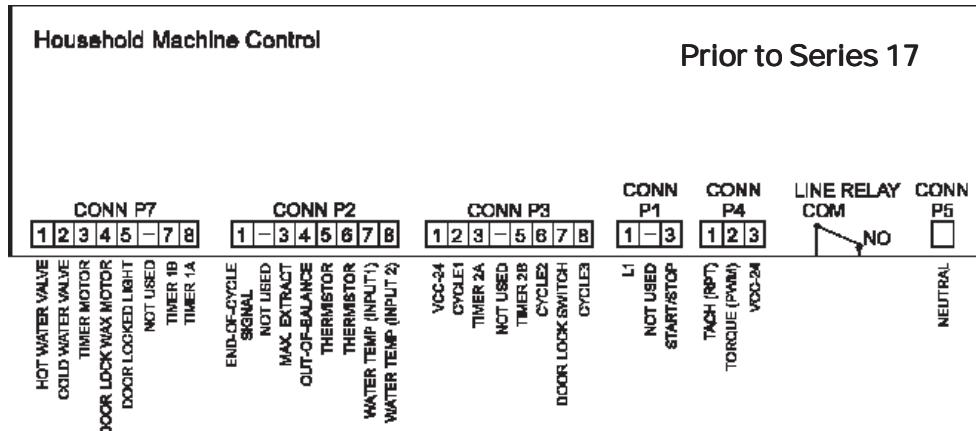

Figure 2-3
Check the water valve for electrical continuity. This check should be made with the electrical supply disconnected from the washer. Remove the wire harness from the water valve terminals and place the ohm meter probes on the terminals of the water valve. The water valve solenoid coil should have a resistance between 500-1000 ohms. If no ohms are shown on the display of the electrical test meter, the solenoid coil has an open winding and the valve should be replaced. The thermistor in the water valve changes in resistance in direct relationship to water temperatures. To monitor the performance of the thermistor, run a partial hot water fill and check the ohm resistance of the thermistor circuit. Then, run a cold water fill and measure the resistance again. There should be a notable difference in the resistance readings. To check the ohm resistance, pull the P2 wire harness connector off the machine control and locate the P2(5) and P2(6) leads in the connector (Figure 2-3).